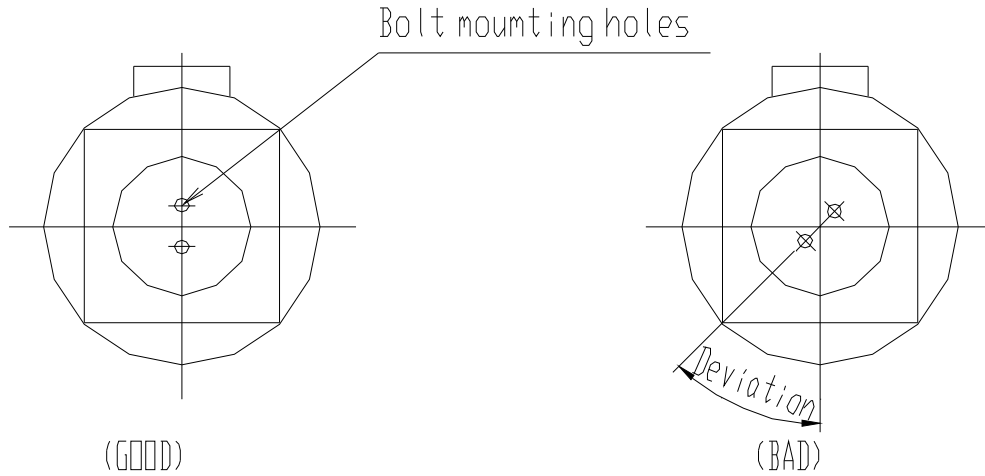

Figure 1
3. Assembling may be performed in the reverse order. In assembling, push the heat transfer assembly into the shell in such a condition that two bolts are vertically symmetric as shown in the Figure 1.